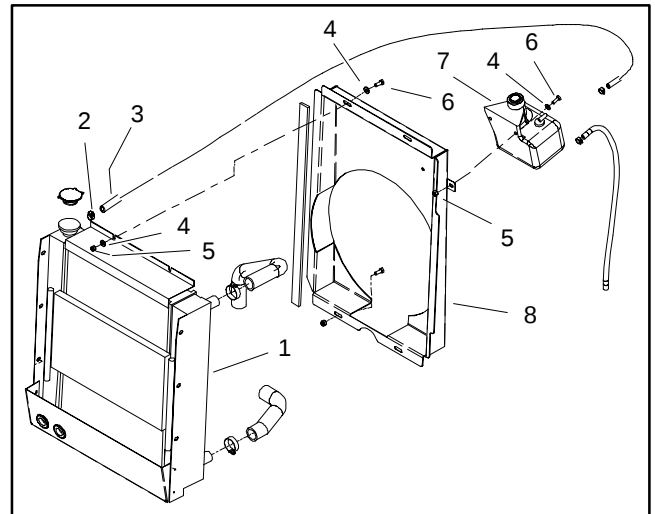

Figure 9
7. Loosen hose clamp and remove overflow hose from radiator fill opening (Fig. 9). Remove coolant reservoir from radiator fan shroud.
8. Remove four (4) cap screws, flat washers and lock nuts that secure fan shroud to radiator (Fig. 9). Position fan shroud away from the radiator.